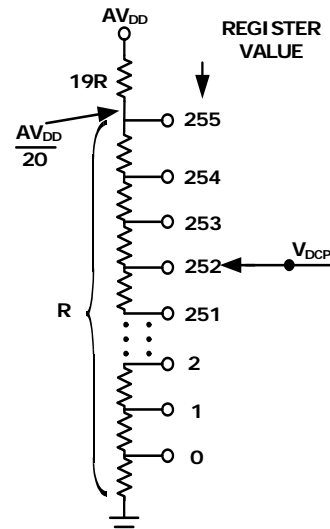
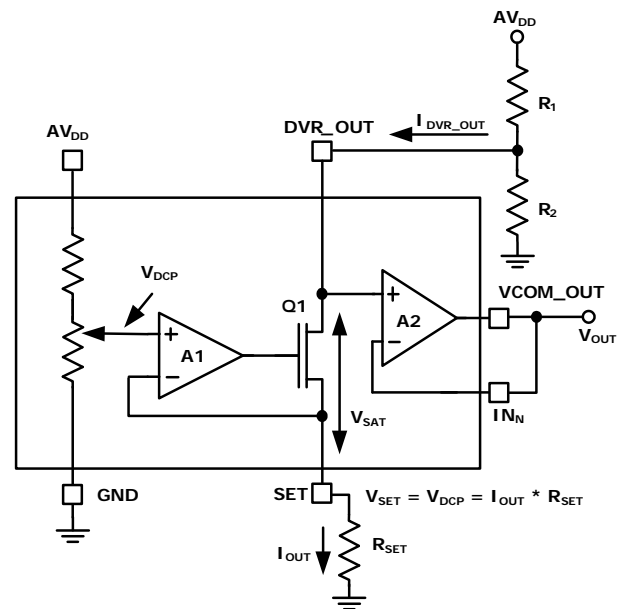

FIGURE 4. SIMPLIFIED SCHEMATIC OF DCP
FIGURE 5. CURRENT SINK CIRCUIT
**Electrical Specifications** Test Conditions: VDD = 3.3V, AVDD = 18V, RSET = 5k $\Omega$ , R1 = 10k $\Omega$ , R2 = 10k $\Omega$ , (See Figure 5), VCOM\_OUT pin connected to INN, unless otherwise specified. Typicals are at TA = +25°C. **Boldface limits apply over the operating temperature range, -40°C to +85°C.**
**Electrical Specifications** Test Conditions:  $V_{DD} = 3.3V$ ,  $AV_{DD} = 18V$ ,  $R_{SET} = 5k\Omega$ ,  $R_1 = 10k\Omega$ ,  $R_2 = 10k\Omega$ , (See Figure 5),  $V_{COM\_OUT}$  pin connected to  $IN_N$ , unless otherwise specified. Typical values are at  $T_A = +25^\circ C$ . **Boldface limits apply over the operating temperature range,  $-40^\circ C$  to  $+85^\circ C$ .** (Continued)
The ISL24211 uses a digitally controllable potentiometer (DCP), with 256 steps of resolution (see Figure 4) to change the current drawn at the DVR\_OUT pin, which then changes the voltage created by the  $R_1$  to  $R_2$  resistor divider (see Figure 5). The DVR\_OUT voltage is then buffered by A2 to generate a buffered output voltage at the  $V_{COM\_OUT}$  pin, capable of directly driving the  $V_{COM}$  input of an LCD panel. The amount of current sunk is controlled by the setting of the DCP, which is recalled at power-up from the ISL24211's internal EEPROM. The EEPROM is typically programmed during panel manufacture. As noted in the Electrical Specifications on page 4, the ISL24211 requires a minimum  $AV_{DD}$  voltage of 10.8V for EEPROM programming, but will work in normal operation (with no EEPROM programming) down to 4.5V.
The DCP controls the voltage that ultimately controls the SET current. Figure 4 shows the relationship between the register value and the DCP's tap position. Note that a register value of 0 selects the first step of the resistor string. The output voltage of the DCP is given in Equation 1:
Figure 5 shows the schematic of the DVR\_OUT current sink. The combination of amplifier A1, transistor Q1, and resistor  $R_{SET}$  forms a voltage-controlled current source, with the voltage determined by the DCP setting.
With amplifier A2 in the unity-gain configuration ( $V_{COM\_OUT}$  tied to  $IN_N$  as shown in Figure 5),  $V_{DVR\_OUT} = V_{COM\_OUT} = V_{COM}$ .